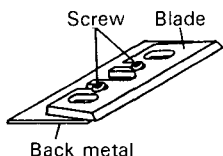

Fig. 8
- It is not necessary to disassemble the back metal from the cutter blade. (See Fig. 8)